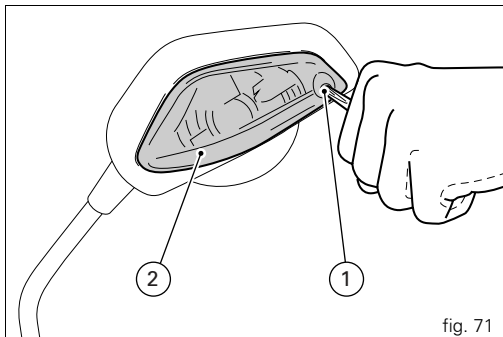

fig. 71
The front turn signals are integrated in the rear view mirrors. To replace the bulb, unscrew the screw (1) and remove the lens (2) of the indicator from the mirror (fig. 71).